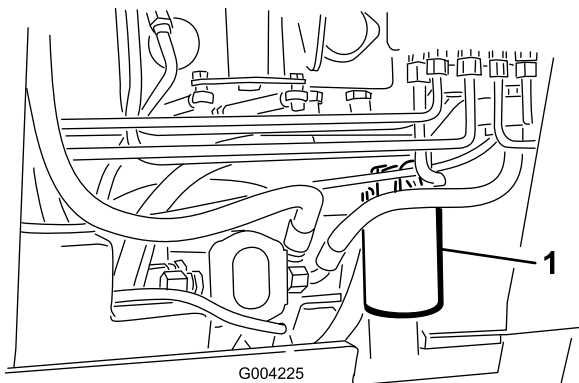

Figure 55
4. Place a drain pan under the filter (Figure 55).
5. Remove the old filter (Figure 55) and wipe the surface of the filter adapter gasket clean.
7. Install the replacement hydraulic filter onto the filter adapter (Figure 55). Tighten it clockwise until the rubber gasket contacts the filter adapter, then tighten the filter an additional 3/4 turn.